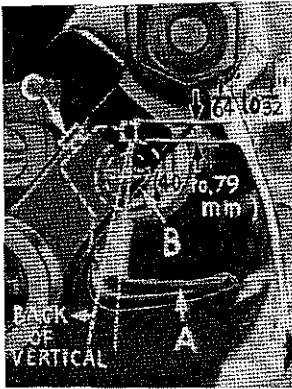

Fig. 7
Insert upper looper (A, Fig. 7) in its holder. Screw (B) holds upper looper in its holder and permits it to be pushed in or out, or turned around its shank. Insert upper looper holder into upper looper shaft (if not already in place). Screw (C) on the clamp holds the upper looper holder in the shaft. Locate upper looper in its holder so that the shank extends  $1/64$  to  $1/32$  inch (.40 to .79 mm) beyond holder (Fig. 7).